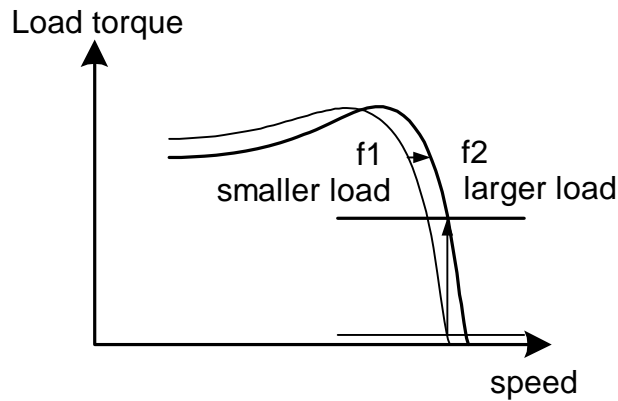

Fig. 17 Output frequency with slip compensation.
(3) Motor Rated Current (Cn-09)
(4) Motor No-Load Current (Cn-10)
- The slip compensation is enabled when the output current is greater than motor no-load current (Cn-10). The output frequency will shift from f1 to f2 (>f1) for the positive change of load torque. (See Fig. 17)
(5) Motor Rated Slip (Cn-11)
- This setting is used as a reference value for torque compensation function. See Fig. 17. The setting is 0.0~9.9% as a percentage of motor Max. voltage frequency (Cn-04) as 100%.